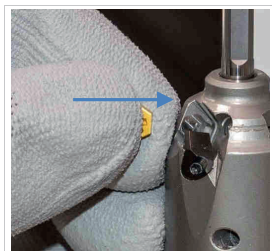

Fig. 8: Inserting a new indexable insert
5. Insert the new indexable insert or turned indexable insert (see *Fig. 8: Inserting a new indexable insert*).